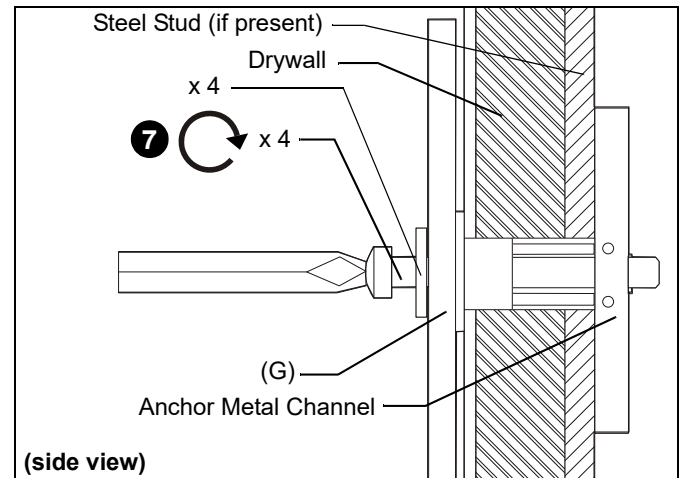

Figure 14
6. Place wall bracket over anchor and align mounting hole in wall bracket with hole in anchor. (See Figure 14)
7. Insert minimum Grade 5 minimum 2-1/2" long screw (not included) through Grade 2 or better 1/4" washer (not included), corresponding mounting hole on wall bracket and into Snap-Toggle (not included) and tighten until flush against mount. DO NOT over tighten! (See Figure 14)